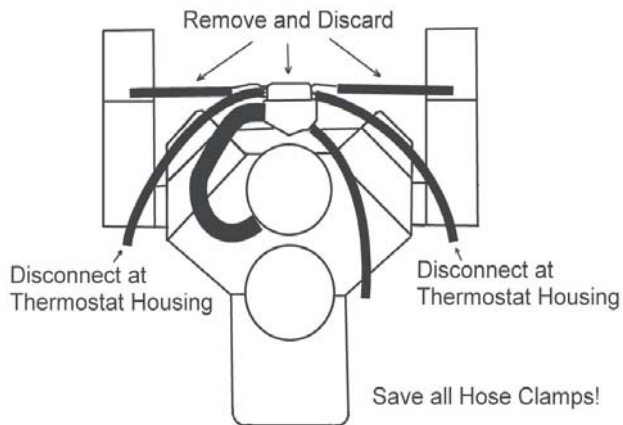

Fig. 1
2. Remove hoses from the existing thermostat housing. Save all hose clamps. See Fig. 1.